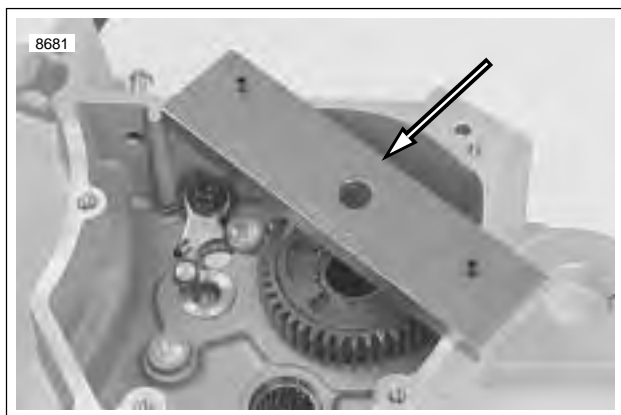

Figure 6-69. Bearing Remover Cross Plate Mounting (Part No. B-45847)
4. See Figure 6-69. Place cross plate on crankcase as shown.